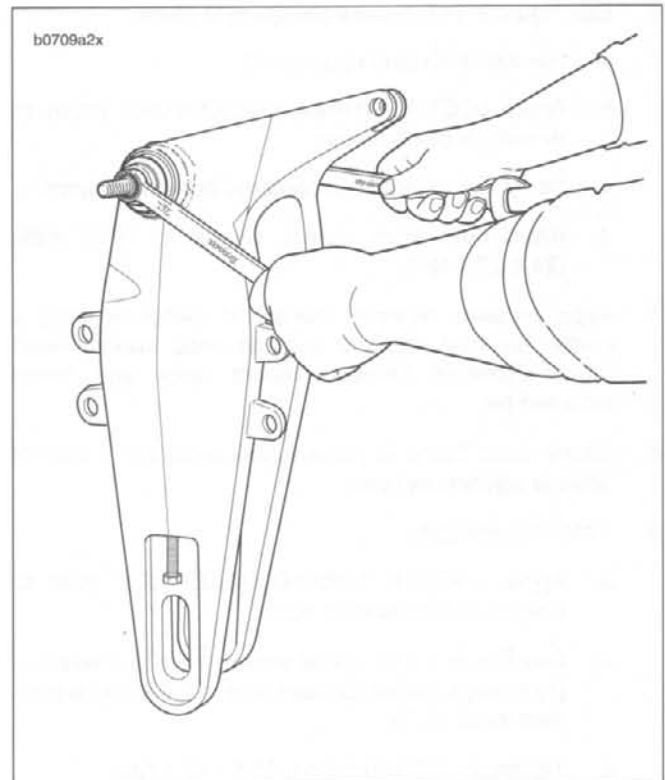

Figure 2-116. Installing Bearings into Swingarm
1. See Figure 2-116. If necessary, draw **new** roller bearing cups into swingarm using BEARING INSTALLATION BOLT (Part No. B-35316-5) and STEERING HEAD BEARING RACE INSTALLER (Part No. HD-39302).